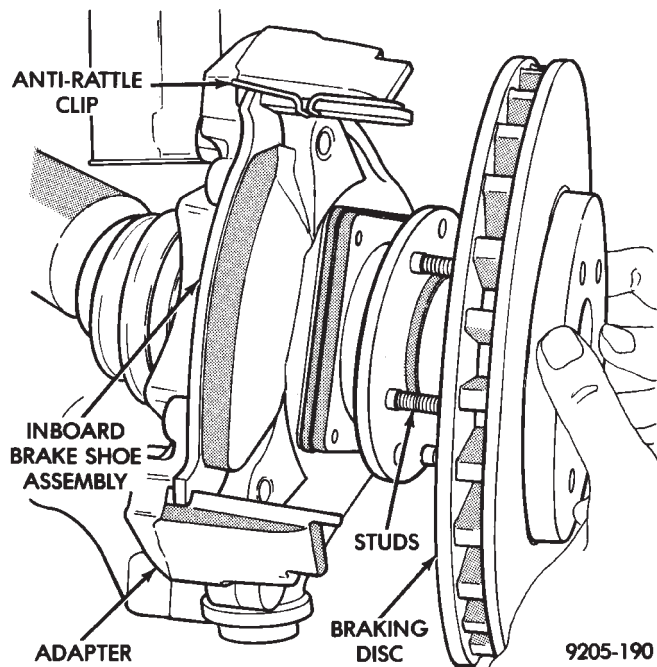
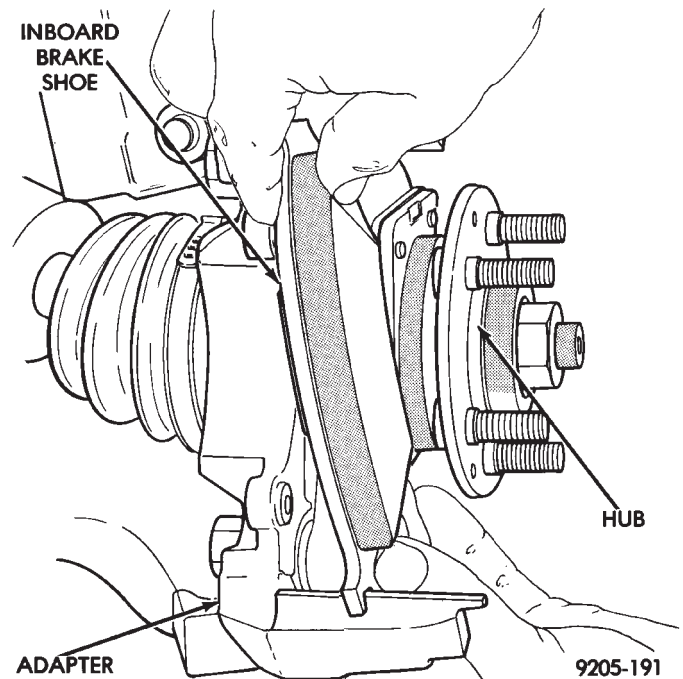
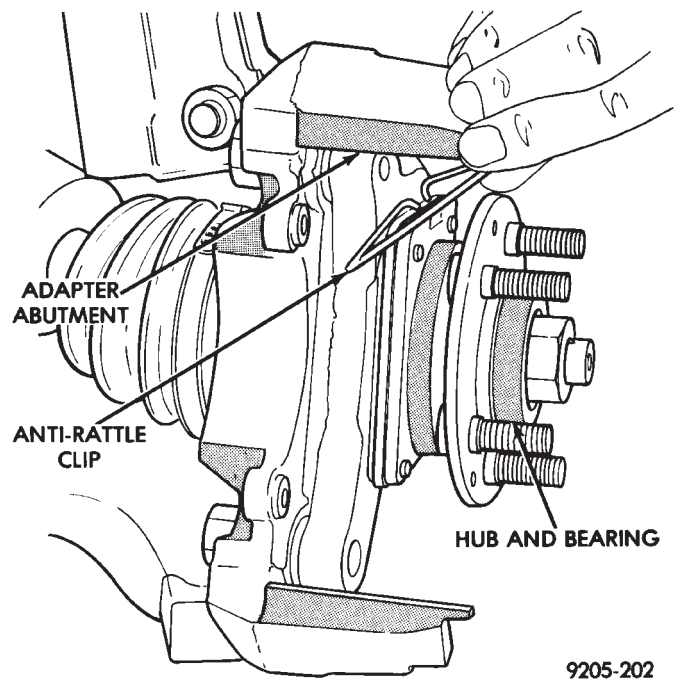

Fig. 6 Removing or Installing Braking Disc
Fig. 7 Removing or Installing Inboard Shoe Assembly
Fig. 8 Remove Or Replace Anti-Rattle Clip
(8) Remove the braking disk (rotor) from the hub by pulling it straight off the wheel mounting studs (Fig. 6).
(9) Remove the inboard brake shoe assembly by sliding it out along the bottom adapter abutment until brake shoe assembly loosens from anti-rattle clip (Fig. 7).
(10) Remove the anti-rattle clip from the top adapter abutment (Fig. 8).
(1) Lubricate both adapter abutments with a liberal amount of Mopar® Multipurpose Lubricant, or equivalent.
(2) Install the anti-rattle clip on the upper abutment of the caliper mounting adapter (Fig. 8).
(3) Remove the protective paper from the noise suppression gasket on both the inner and outer brake shoe assemblies (if equipped).
(4) Install the new inboard brake shoe assembly on the adapter by sliding it along the adapter abutments. Be careful not to get any grease from the adapter abutment on the surface of the brake lining material, (Fig. 7). Be sure inboard brake shoe assembly is correctly positioned against anti-rattle clip (Fig. 6).
(5) Reinstall the Braking Disk on the hub, by installing it over the wheel studs until it is seated against the face of the hub (Fig. 6).